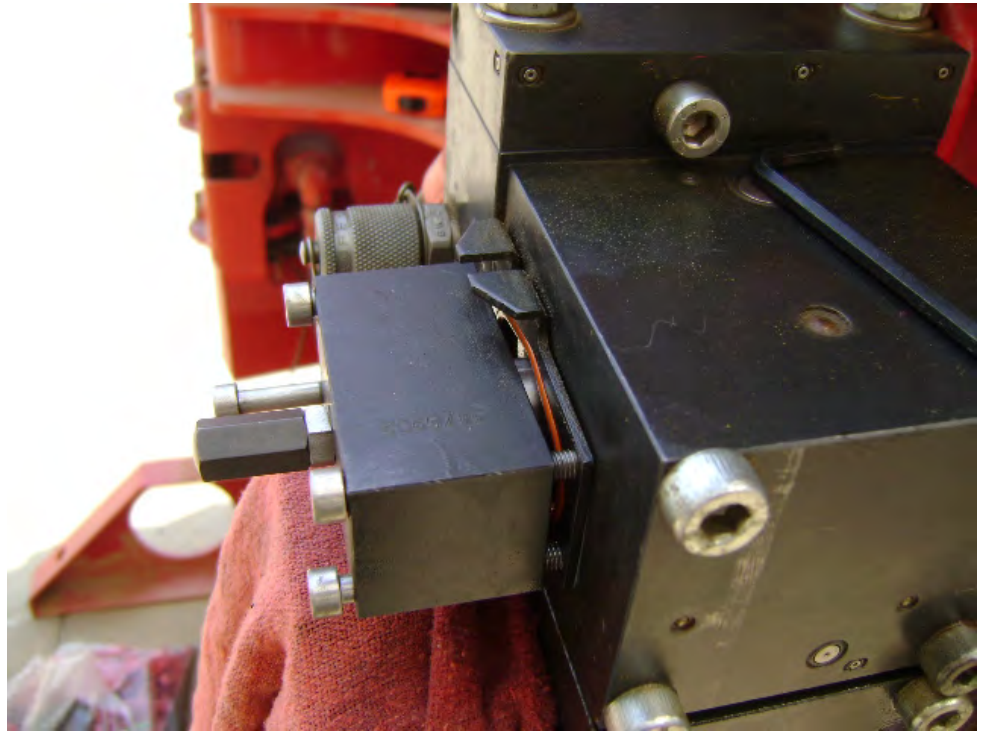

Figure 17
16. Install the spool cover onto the valve (Figure 17). Ensure the o-ring stays in place while installing the cover so that it does not get pinched during tightening.